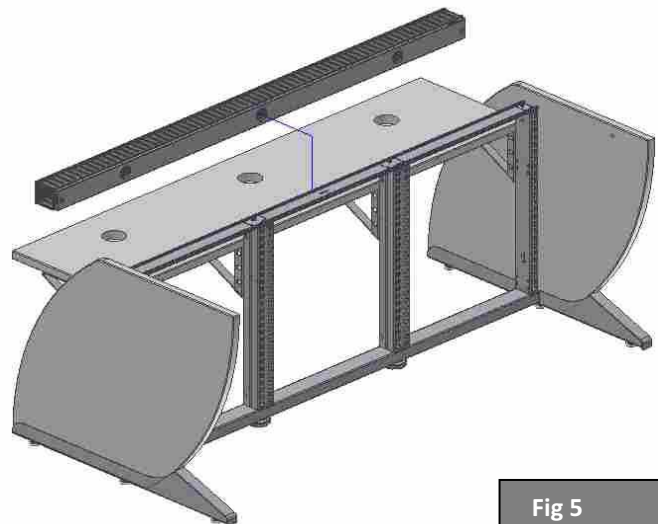

Fig 5
STEP 3 – Insert the hook of the horizontal duct in the first trapezoid of the base frame at the back (Fig. 5).